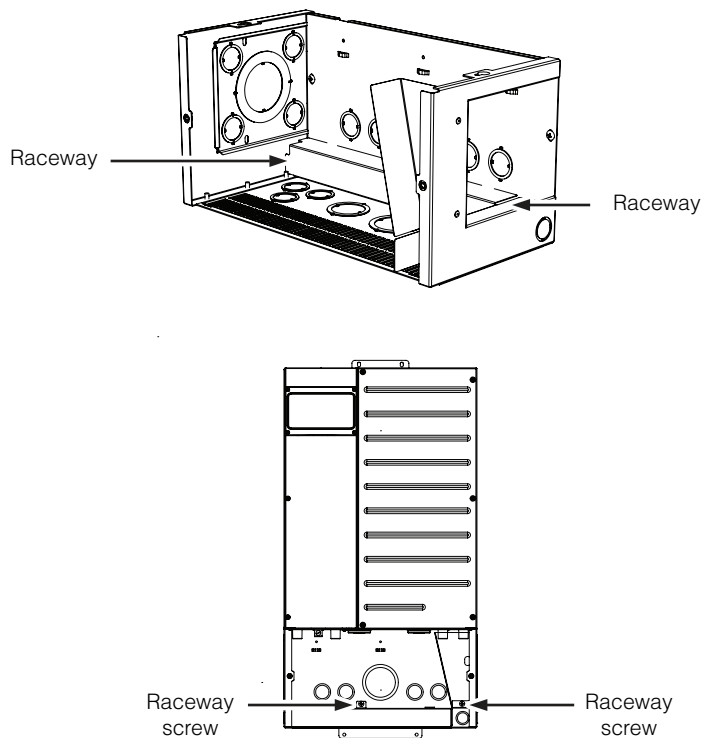

Figure 4-5 XW+ Conduit Box raceways
1. Remove the two raceways for the communication cabling by removing the screw holding each raceway in place, as shown in Figure 4-5.